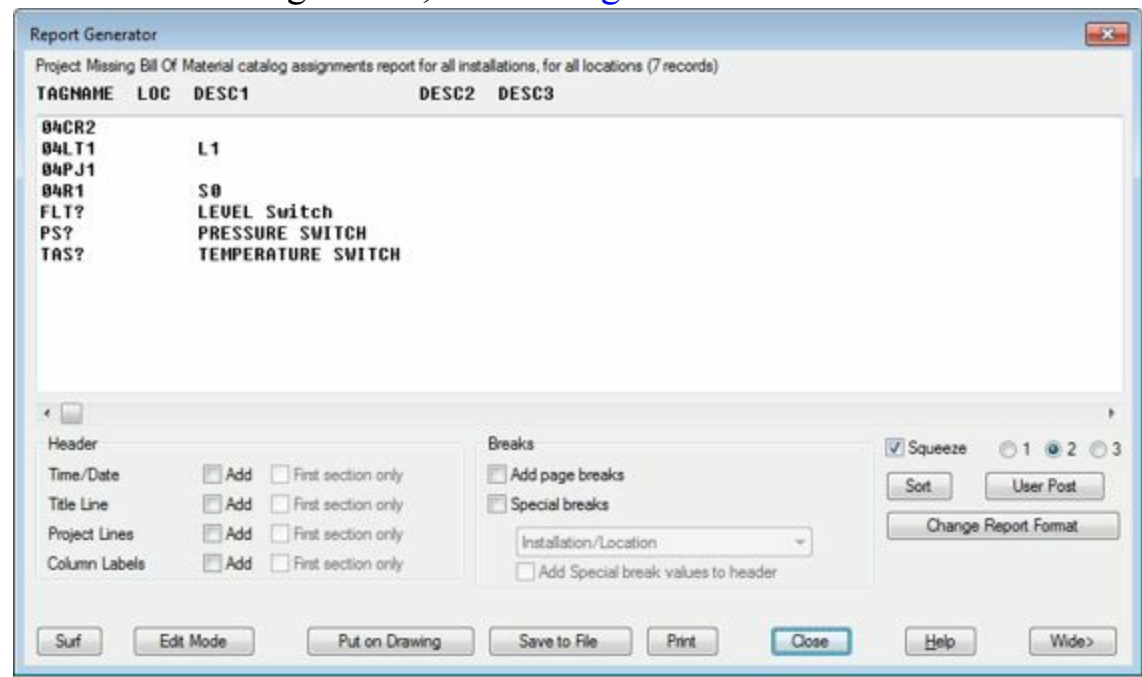

Figure-15. Report Generator dialog box with missing catalog data components
- Click on the **OK** button from the dialog box. The **Report Generator** dialog box will be displayed with the missing entries; refer to Figure-15.